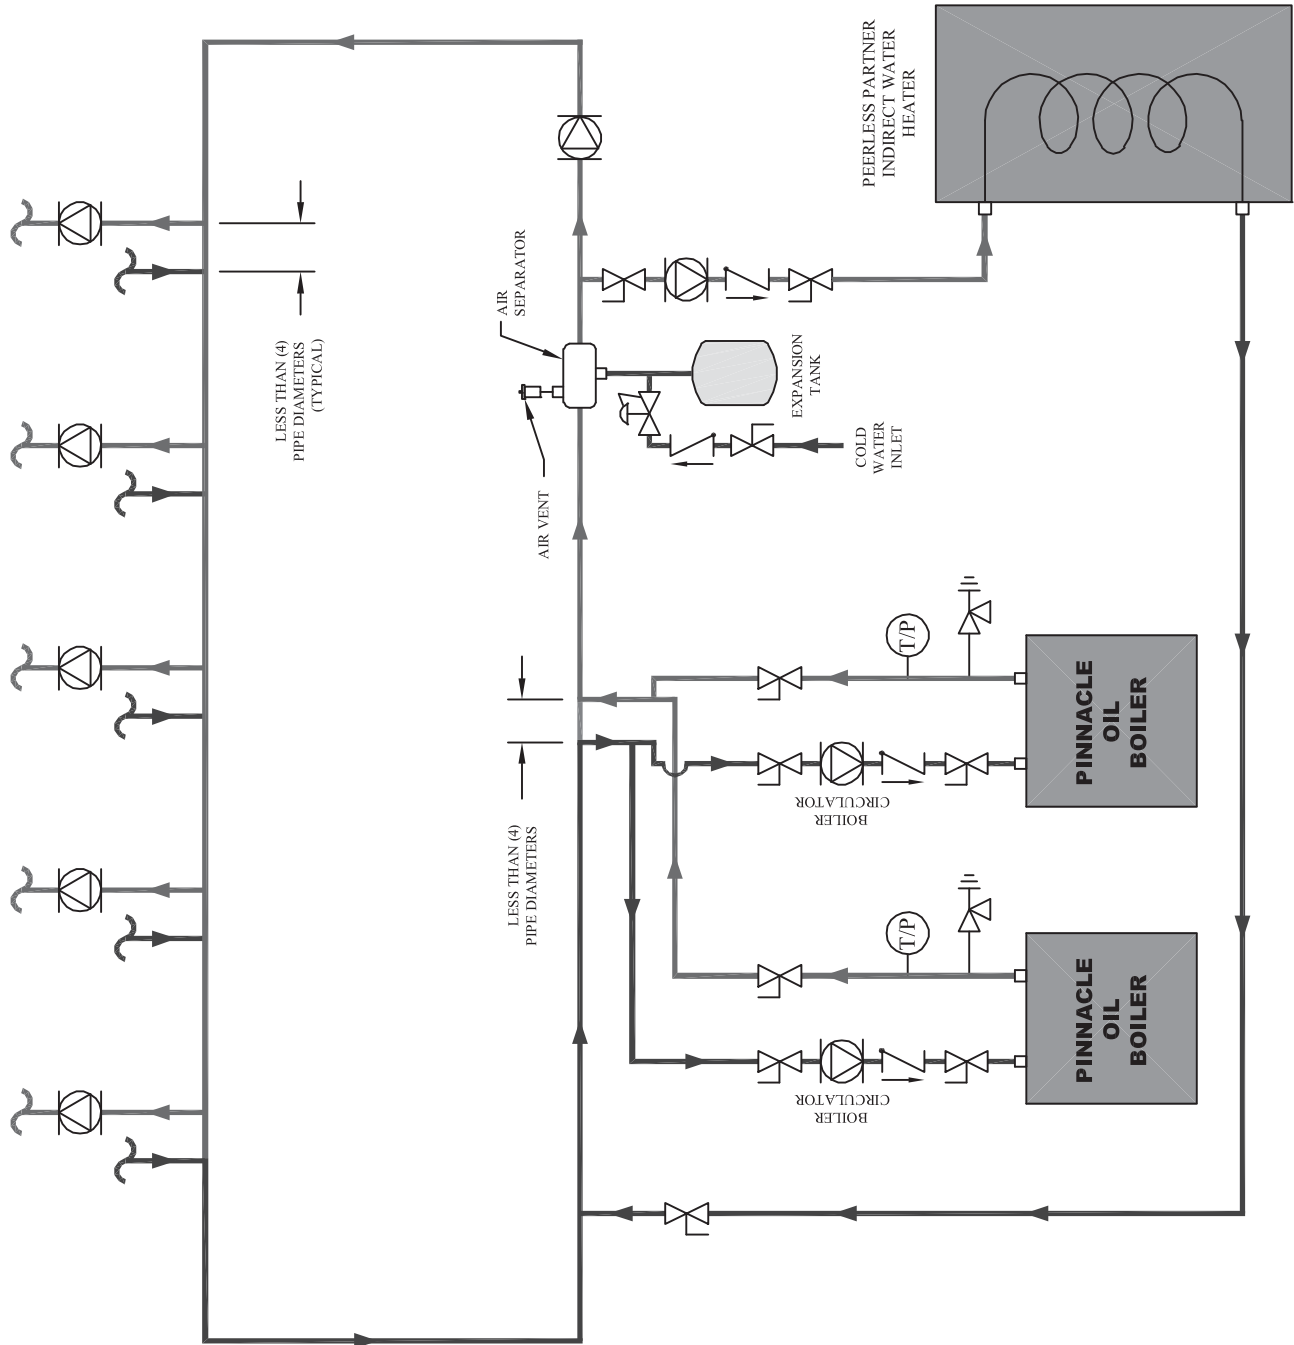

Figure 4.6: Two Boilers with Five Primary/Secondary Zones using Zone Circulators
4. *Figure 4.6:* This illustration shows two boilers piped in parallel feeding a primary/secondary system with 5 zones using zone circulators. In this configuration, the supply water temperatures become increasingly cooler when all zones are calling. Therefore, the hottest and smallest zones should be piped closest to the boiler for best results.